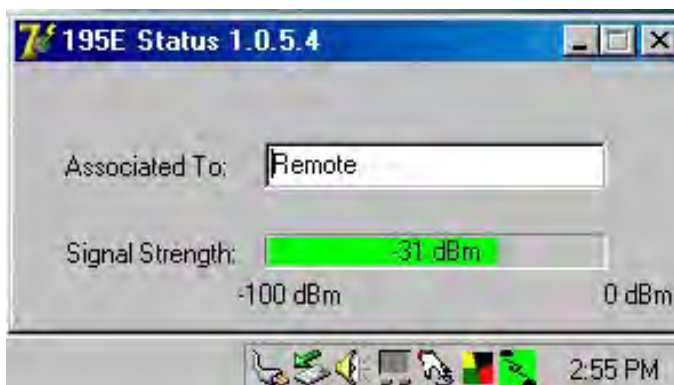

Figure 8: EtherStation Status Program
4. Connect the Model 210 to your computer either directly to the Ethernet card or through a Switch using a CAT-5e Ethernet cable. The Ethernet port on the 210 supports Auto-Negotiation so either a patch cable or crossover cable will work. Open the ESTeem Status Program. Status icons will appear in your system tray (Figure 8). When the status menu is opened from the system tray, the status window will be displayed (Figure 8) to show the Access Point MAC address and signal strength. The tray icon and Signal Strength bar will display the colors from Green, Yellow to Red on progressively poorer signal or will show Grey if roaming.